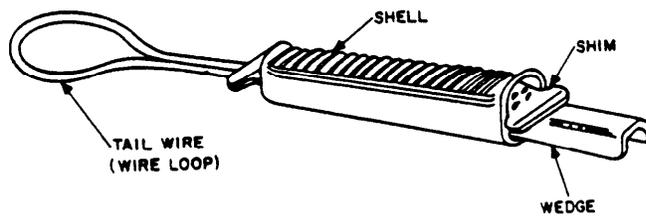

Fig. 8-B Drop Wire Clamp
- 4.01 The component parts of the B drop wire clamp (Fig. 8) are made of aluminum alloy with corrosion-resistant steel wire loop on the wedge. This clamp is for general use except in highly corrosive areas.